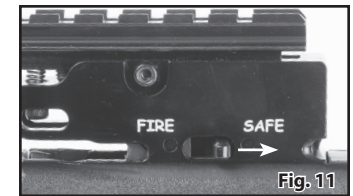

Fig. 11
- The safety is not engaged ("SAFE") unless it is all the way back (Fig. 11)